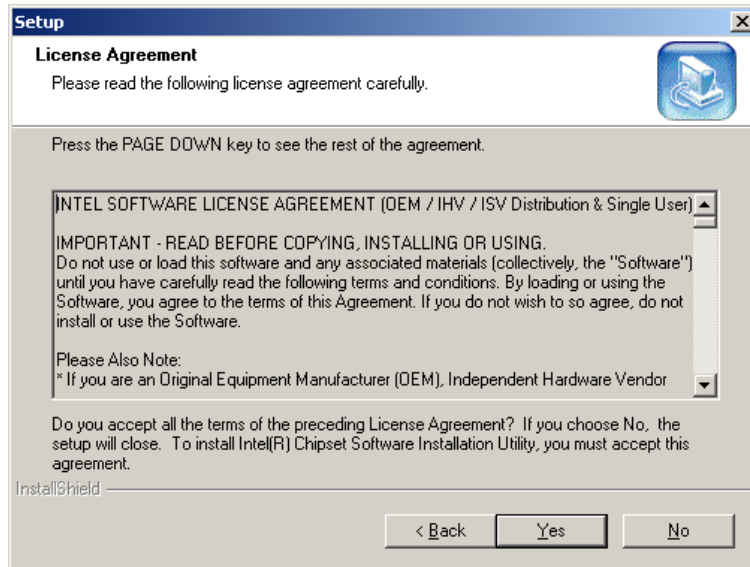
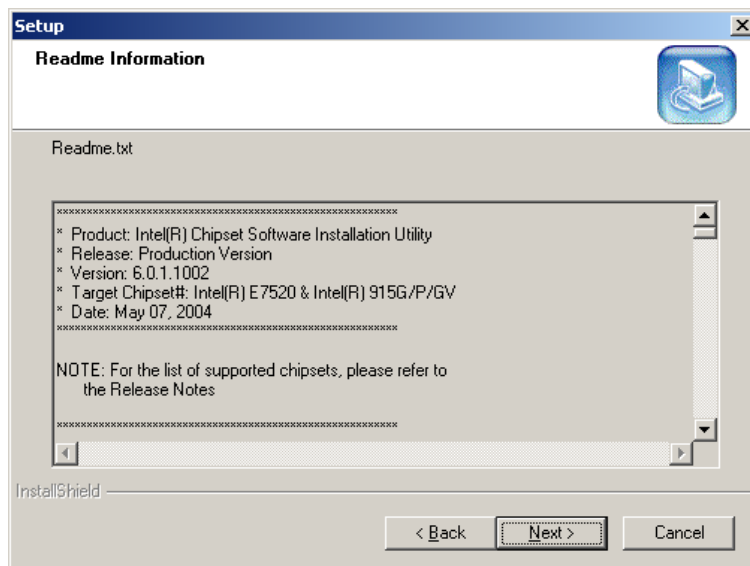
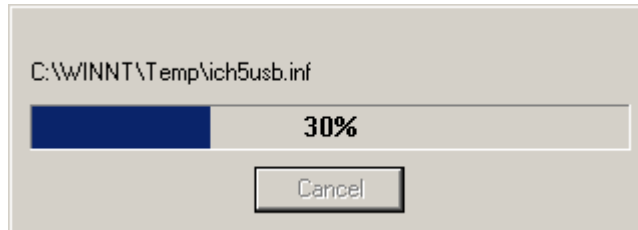

Figure 6-3: Chipset Software Installation Utility License Agreement
Figure 6-4: Chipset Software Installation Utility Readme File Information
Figure 6-5: Installing Chipset Driver
Step 4: Click **NEXT** and the license agreement appears (**Figure 6-3**).
Step 5: Read the license agreement (**Figure 6-3**). To accept the terms and conditions stipulated in the agreement, click **YES** and the Readme file information appears (**Figure 6-4**).
Step 6: Read the Readme file information (**Figure 6-4**). Click **NEXT** and the chipset driver is installed (**Figure 6-5**).